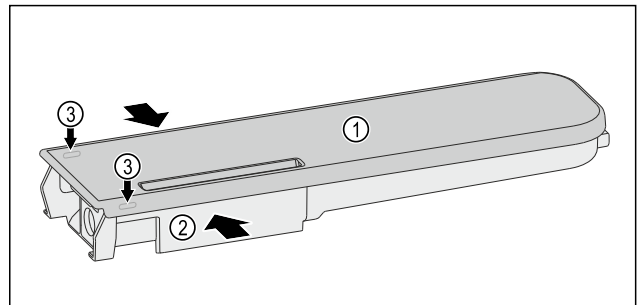

Fig. 117
- ▶ Squeeze the water tank Fig. 117 (2) and carefully lever the cover Fig. 117 (1) over the latches Fig. 117 (3) pull it up.
- ▶ Slightly move the cover Fig. 117 (1) back and forth and remove it from the top.